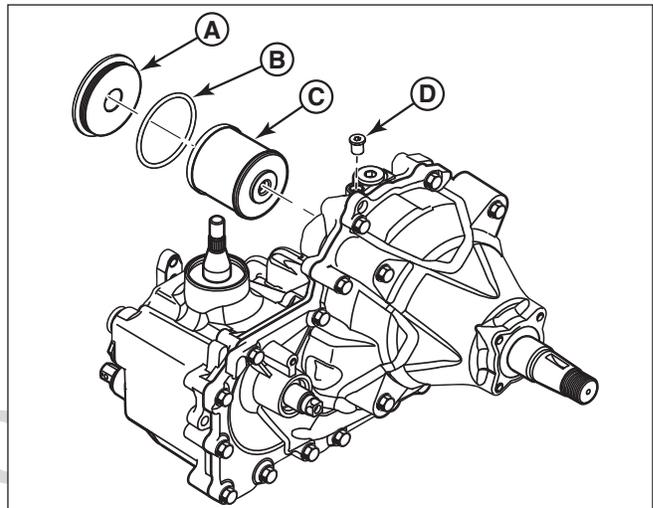

Figure 25. Transmission Oil Filter Change
2. Remove the oil filter cover (A, Figure 25) from the transaxle to drain the oil. Remove the O-ring (B) from the cover and discard the O-ring.
3. After the oil has drained from the transaxle, remove the oil filter (C) from the transaxle housing.
5. Remove the top oil fill vent port (D) and fill the transaxle with new 20W50 motor oil through the expansion tank until the oil reaches the oil fill vent port.